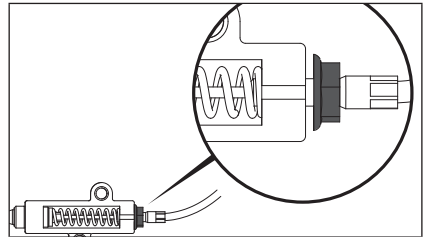

Figure 90
5. Loosen the nut from the compression spring barrel. (Fig. 90)